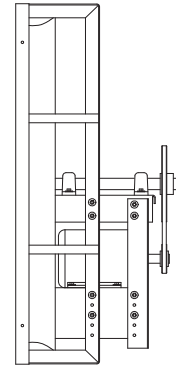

FIGURE 2.
- (6) Adjust belt tension (see paragraph (c) below) by loosening bolts slightly and tapping motor bracket up or down as necessary. Check motor pulley alignment with fan pulley and adjust pulley position on motor shaft as necessary. (See American Coolair Form 220-42, packed in motor and pulley package, for proper installation instructions of pulley to motor shaft.)
- (7) Retighten pulley set screw (if necessary) and motor bracket bolts. **IMPORTANT:** Motor bracket bolts must be secured to maintain proper belt adjustment.
- (b) **Motor Mounting - Style C Model (see Figure 2).** All belt drive models Style C are shipped complete with motor and drive mounted.